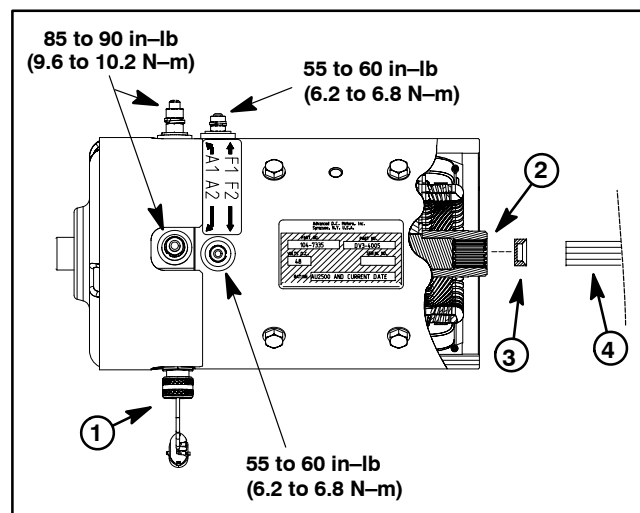

Figure 52
4. Disconnect wires from traction motor (Fig. 52):
1. If removed, install two (2) roll pins into motor shaft.
2. Make sure that rubber damper is installed into the motor shaft internal spline with the damper flat side toward the motor (Fig. 52).
6. Connect wires to traction motor (Fig. 52):